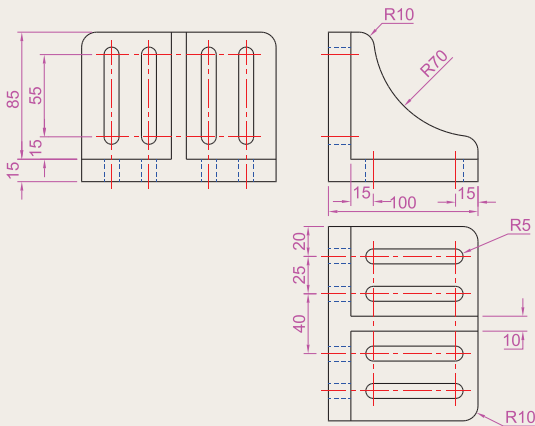

Fig. 7.29 Exercises 6 and 7 – an orthographic projection of the angle plate
4. Call **Ellipse** tool and set to isocircle and add the isocircle of radius 20 centred in its correct position in the outline of the top (Fig. 7.29).
6. Construct the orthographic projection given in Fig. 7.29.